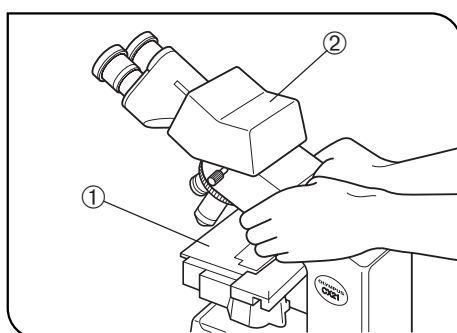

Fig. 2
5. When carrying the microscope, hold both sides around the hole of the arm as shown in Fig. 2 and carry carefully.